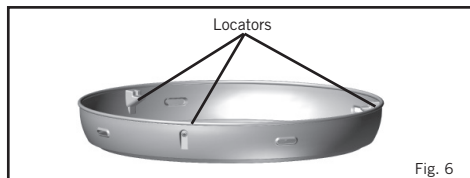

Fig. 6
- The BBQ Grid locates on three die-cast locators in the fat pan (Fig. 6).
- The Chef Pan locates on three die-cast locators in the fat pan (Fig. 6).
- The Grill 2 Braai 50 locates on three die-cast locators in the fat pan (Fig. 6).